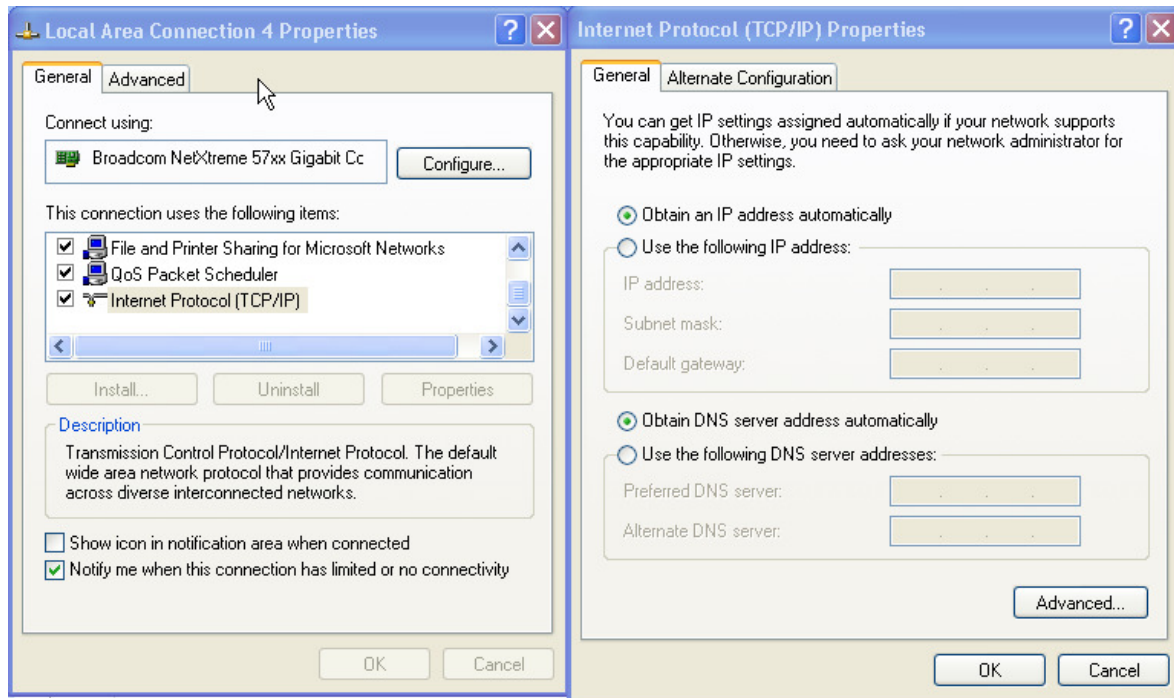

Figure 1.19: Workstation IP address configured to be allocated automatically
13. Ensure that the DHCP Client service is running on the host PC. This can be established by checking the workstation IP address is assigned automatically. Under the network adapter properties, select 'Internet Protocol Properties' and then 'TCP/IP Properties', as shown in Figure 1.19. To confirm the